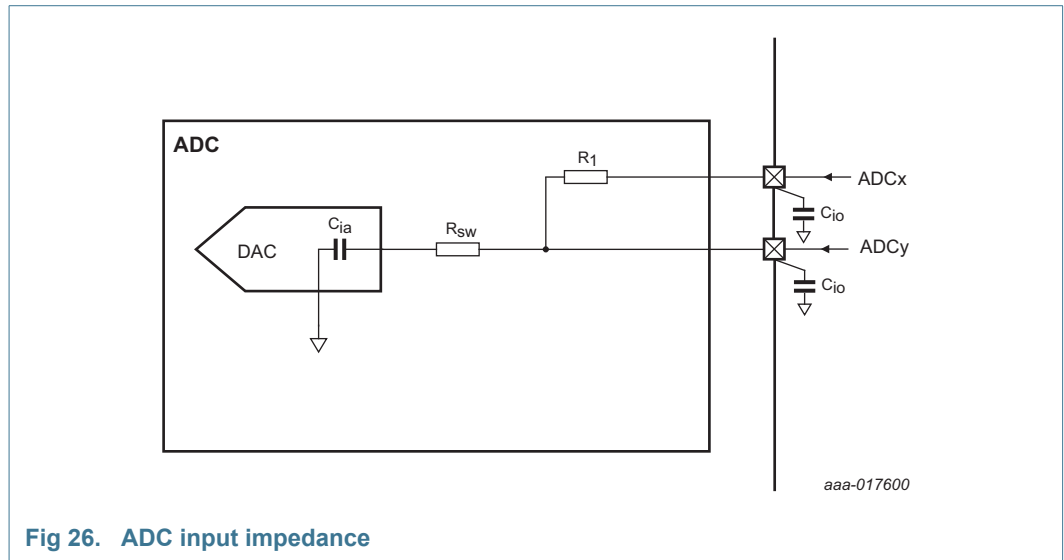

Fig 26. ADC input impedance
- [10] Input impedance Z_i is inversely proportional to the sampling frequency and the total input capacity including C_{ia} and C_{io} : $Z_i \propto 1 / (f_s \times C_i)$. See Table 20 for C_{io} . See Figure 26.
Figure 26 shows the ADC input impedance. In this figure: